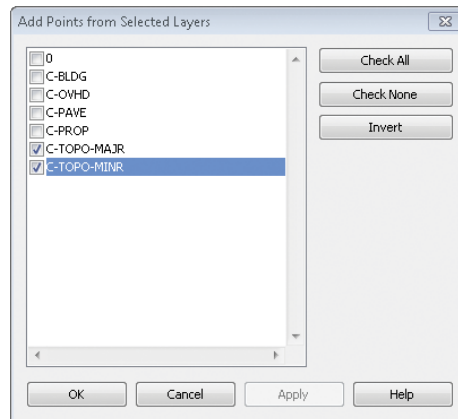

FIGURE 13.8 Select only the layers containing 3D contour information.
8. Click the linked CAD file, and the Add Points From Selected Layers dialog box appears (Figure 13.8).